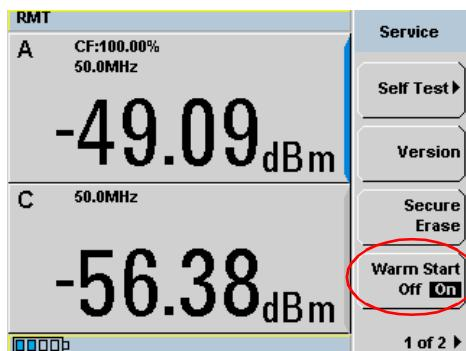

Figure 2-57 Enable/disable warm start feature
- 2 In the **Service** menu, press **Warm Start Off/On** to enable or disable the warm start feature. This feature is set to ON by default (see Figure 2-57).